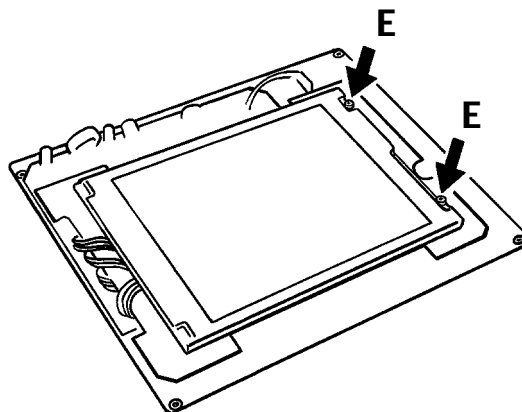
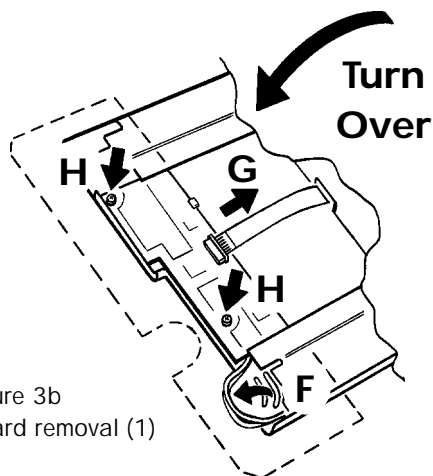

Figure 3a Remove securing screws
Figure 3b
- a Remove securing screws ('E' in figure 3a) and turn the display unit over to reveal the circuit board (figure 3b).
- b Gently lift the wires out of their channels (F in figure 3b), remove the flexi-cable ('G') and remove the circuit board retaining screws ('H').
Reassembly is the reverse of the above process. When re-fitting the circuit board, ensure that the wires lie neatly in their channels ('F' in figure 3b above) or early failure will result.